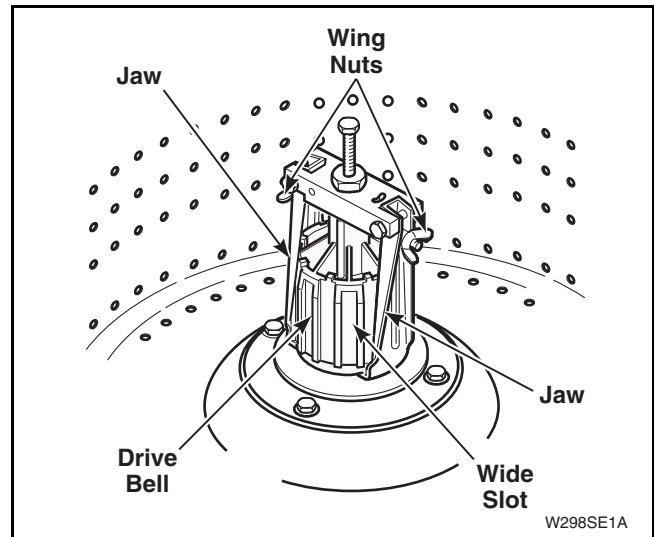

Figure 14
- Place tool over drive bell, making sure indent on jaws line up with wide slots on drive bell. Refer to *Figure 14*.
- Place lip of each jaw under bottom edge of drive bell, making sure indent on jaws line up with wide slots on drive bell. Tighten wing nuts on tool to hold jaws firmly against drive bell. Refer to *Figure 14*.